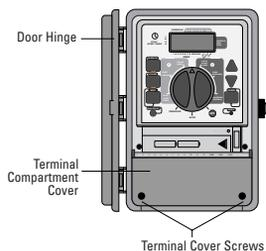
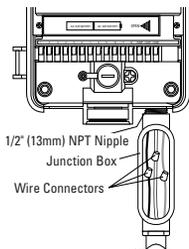

FIGURE 18: Outdoor Timer, Showing Terminal Cover
FIGURE 21: AC Wiring Using Junction Box
- Take off the terminal compartment cover by unscrewing the two screws and pulling the plastic cover forward. [See figure 18], this reveals the AC Power Cover [Figure 21].
- Take off the terminal compartment cover of the controller by unscrewing the two screws and pulling the plastic cover forward. [Figure 18].
The controller has a standard electrical power connection [Figure 21]. Use this 1/2 inch (13mm) NPT nipple to connect the controller to a standard electrical junction box that should be UL Listed (or equivalent) or comply with IEC or EN standards (or equivalent).
- Connect the junction box (not included) to the NPT nipple [Figure 21].